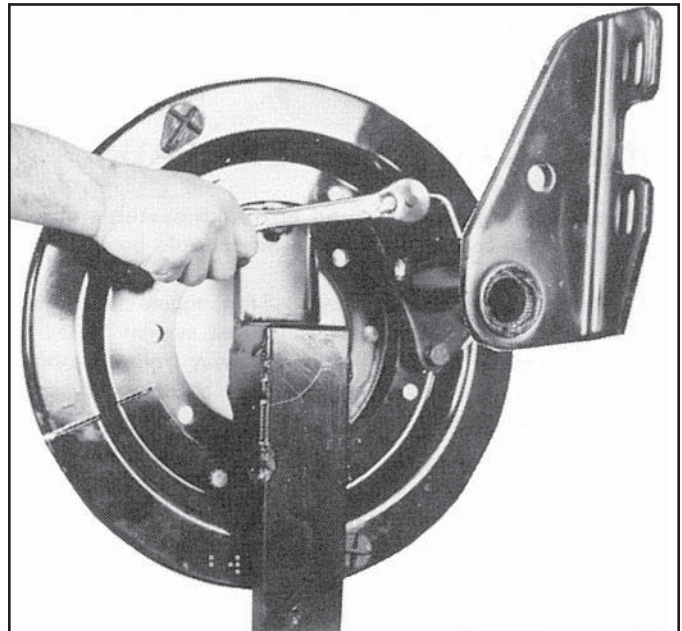

FIGURE 7 - REMOVING ACTUATOR BRACKET
9. Mark and remove the dust shields from the spider by removing the six cap screws using a 3/8" socket. Do not remove unless there is apparent damage (See Figure 7).